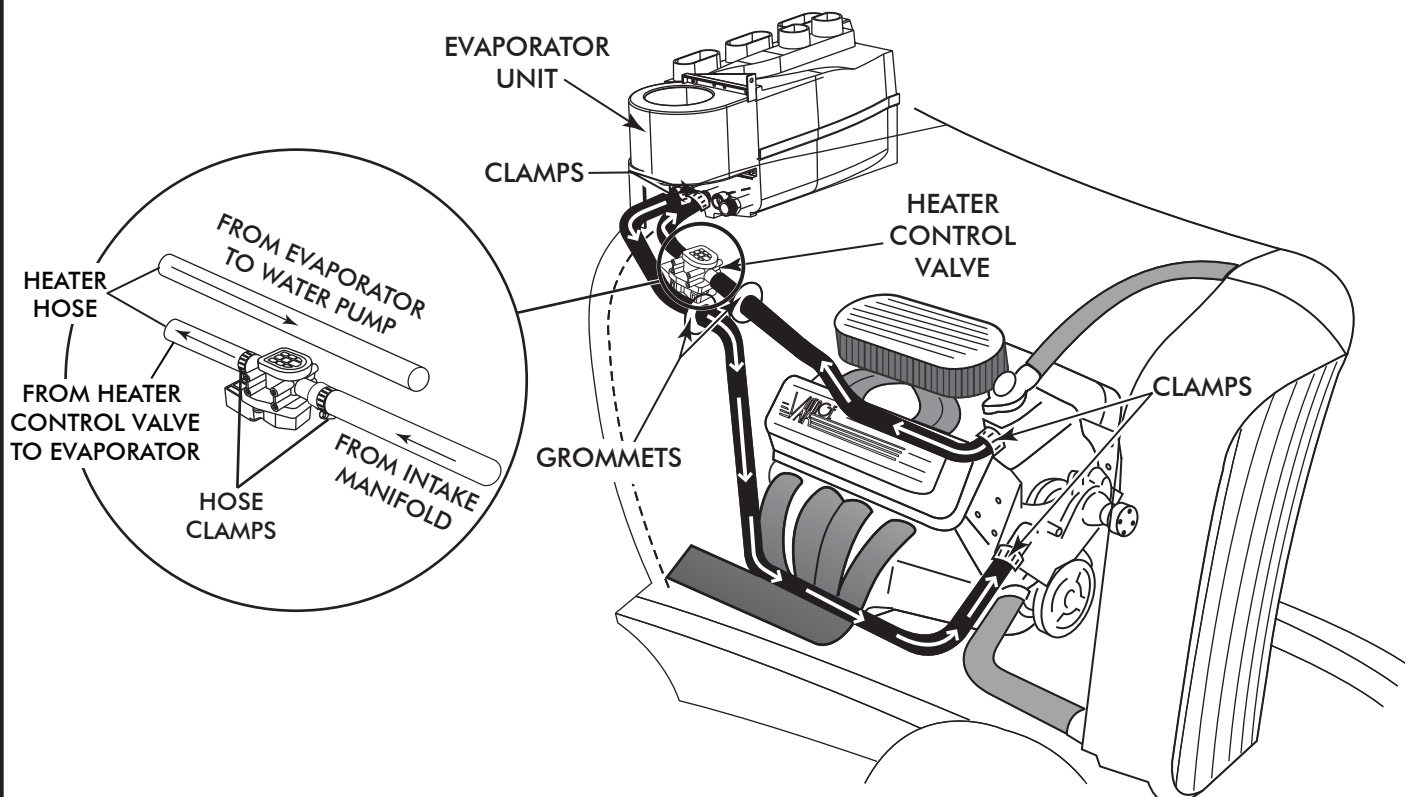

FIGURE 4
- AFTER THE EVAPORATOR IS IN PLACE, RUN 5/8" HEATER HOSE FROM THE HEATER TUBE NEAREST THE BLOWER ON THE EVAPORATOR THROUGH THE FIREWALL OR BEHIND THE KICK PANEL THROUGH THE FLOOR TO THE INTAKE MANIFOLD HEATER CONNECTION. INSTALL THE HEATER CONTROL VALVE IN THIS LINE (PRESSURE). SEE FIGURE 4, BELOW **(BE SURE TO FOLLOW FLOW ARROW ON HEATER CONTROL VALVE)**.
IF YOU ARE USING AN OPTIONAL CONTROL PANEL, REFER TO THE INSTRUCTIONS FURNISHED WITH THE PANEL FOR OPERATION. FOR STANDARD GEN II FOUR-LEVER CONTROLS, CHECK OPERATION (SEE FIGURE 4). **IMPORTANT NOTE: BEFORE OPERATING SYSTEM, CAREFULLY UNROLL CAPILLARY TUBE AND INSERT TO A DEPTH OF 4 1/2" THROUGH PRE-DRILLED HOLE IN TOP OF CASE (BLUE DOT). SEE PAGE 13.**